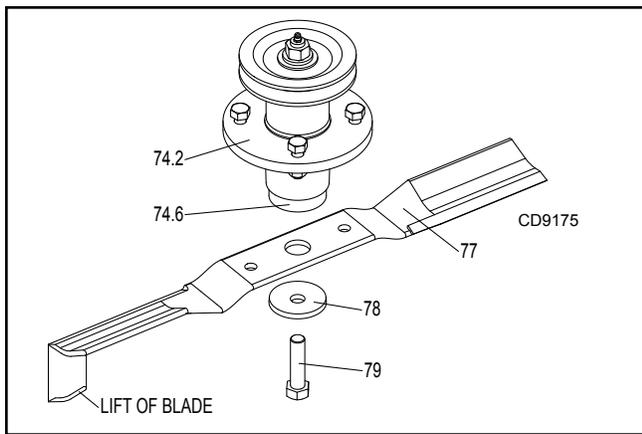

Figure 19. Blade and Spindle Assembly
1. Remove bolt (79), Figure 19, which has right hand threads.
2. Remove belville washers (78) and blade (77).
**NOTICE:** When installing blade, the lift of the blade must be toward the spindle blade housing as shown in Figure 19. Torque bolt (79) into shaft assembly to 100 lbs-ft.
2. Place Belleville washer (78) over blade and insert blade bolt (79). Torque blade bolt to 100 lbs-ft.